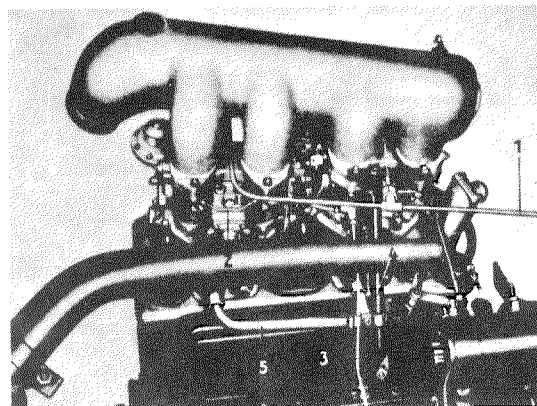

Fig. 01-4/6
2. Unscrew the strut (4) supporting the carburetor system at the air suction tube (Fig. 01-4/6) and unscrew the hexagon nuts from the air suction tube.
3. Open the snap catches (5) on the air filter, detach the rubber hose (4) from the vent tube of the cylinder head cover, and remove the upper part of the filter (3) together with the air hose (2) and the air suction tube (1) (Fig. 01-4/7). Pay attention to the gaskets between air suction tube and carburetor.